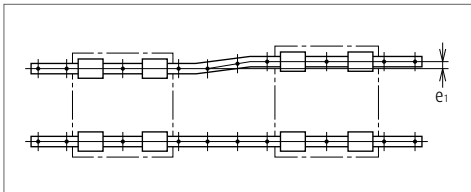

Fig. 5
- > **Figs. 5 and 6** are representing the mounting errors of e_1 and e_2 . Their permissible values are shown in the description of the installation of each series.